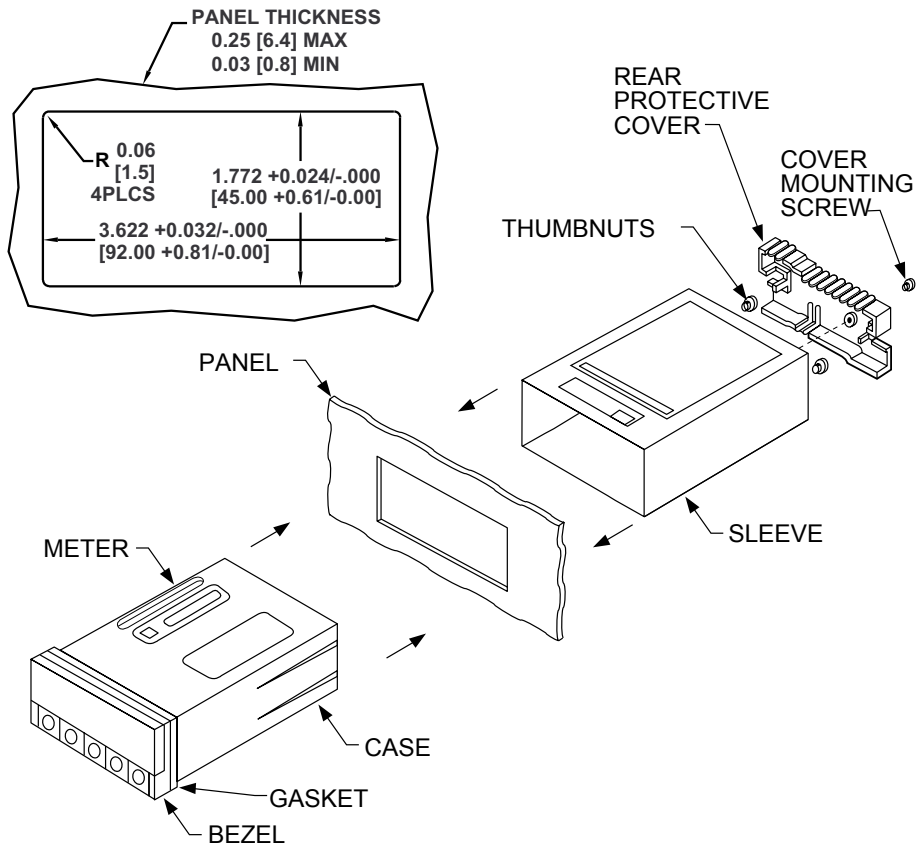

Figure 5-14. Panel Mounting Assembly
The meter can be mounted in a panel so that the front of the meter is flush with the vertical panel surface. Panel mounting can be seen as simply “sandwiching” the panel between the inner case and the outer sleeve in the last phases of assembly. **Figure 5-14** shows the panel cutout dimensions, and the dimensions for the panel thickness. It requires that the following already be done:
If all of these steps are done, use **Figure 5-14** as a guide:
6. Punch or cut a hole in the panel using the panel cutout dimensions in **Figure 5-14**. Remove burrs and paint the panel as required.